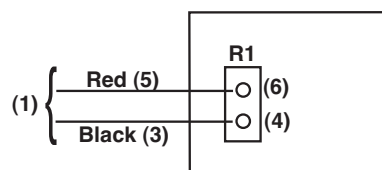
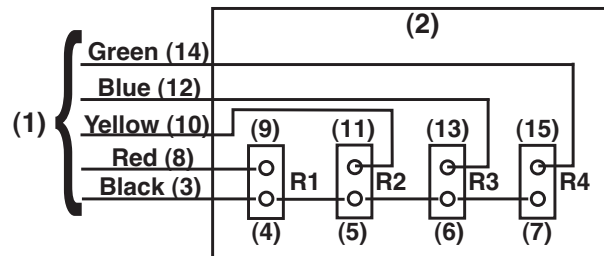

Fig. 5. One line control.
Fig. 6. Four line control.
- (1) Figure 5 shows wiring the *connecting wires* (1) to the instrument (2) with 1-line *control*.
- (a) Connect the black wire (3) to the *ground terminal* (4) of the instrument event relay R1.
- (b) Connect the red wire (5) to the control line (6) *terminal* of the instrument event relay R1.
- (2) See the Operation section (VI.) for typical commands and examples of programming with this type of control.
- b) 4-line *BCD* control (for models with more than two positions). The control instrument used must have four (4) *TTL* or *contact closure outputs*. The relays must be capable of simultaneous operation. The position of the valve is dictated by the *states* of the four *event relays*. This method of control allows direct access to any chosen valve position.
- (1) Wiring the loose wires (1) to the instrument (2) with 4-line *BCD* control (see Figure 6):
- (b) Connect the jumper wires (supplied) from the *ground terminal* (4) of the instrument event relay R1 to the *ground terminals* (5, 6, and 7) of the instrument event relays R2, R3, and R4.
- (1) When the logic state is changed to HIGH, (OPEN, or OFF), the valve will rotate to position #1. When the logic state is changed to LO, (CLOSED, ON, or GROUND), the valve will rotate to position #2.
- (2) Wiring the *connecting wires* to the instrument with 1-line *control* (see Figure 5).
- (3) 1-line *level logic* generic time programming example follows. (Note: the actual programming will vary depending on the manufacturer of the instrument used):
- (3) Wiring the loose wires (1) to the instrument (2) with 4-line *BCD* control is shown in Figure 6.
- (4) A 4-line *BCD* generic time programming example follows.